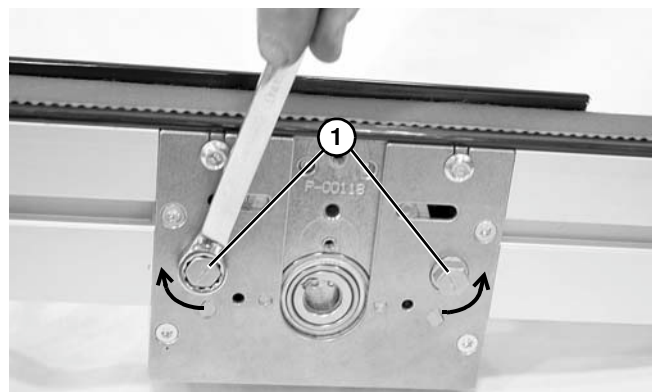

Figure 8
4. Rotate the tensioner cams (**Figure 8, item 1**) in the direction indicated to tension belt.